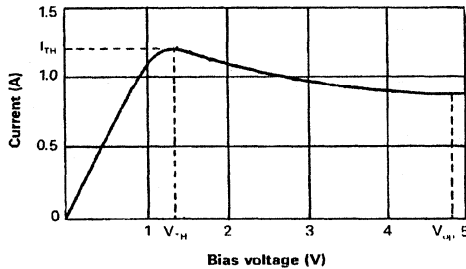

Fig. 1a Typical DC Characteristic, Standard Gunn Diode
- The power supply must be capable of supplying the saturation current, as indicated in Figures 1a. and 1b. A value of 1.5 times the operating current as maximum power supply rating should give an adequate margin.